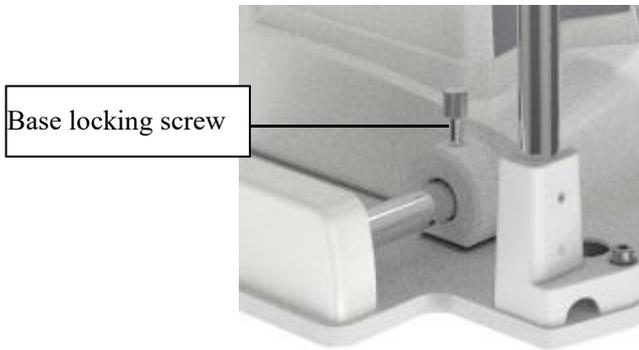

Figure 7.1.4
2. Take the main device out of the box and place it on the instrument table. Place every pinion on both sides of the rack. Please keep the distance between each pinion to the end of the rack rail as same as possible. Loosen the Base locking screw (see Figure 7.1.4), put the rack and pinion cover, and then push it in the direction of the rack rail until the pinion hits the end of the rack cover. Check if each pinion on both sides touches the end of the rack cover. If one of them has a distance, remove the cover and re-position the pinion on the rack rail until the same end of the rack cover is reached for every pinion. Then gently push the base back and forth to check whether the roller can smoothly